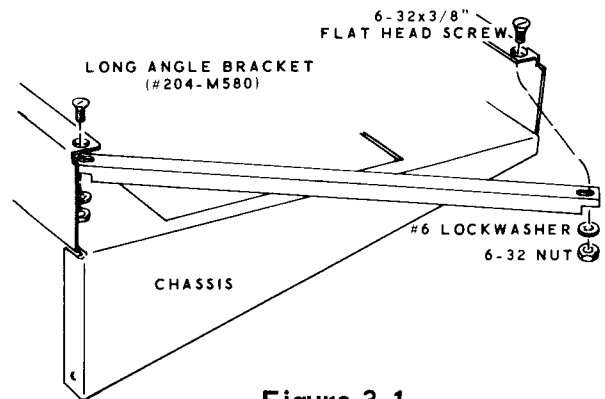

Figure 3-1
- ( ) Refer to Figure 3-1, and install the long angle brackets, using 6-32 x 3/8" flat head hardware.